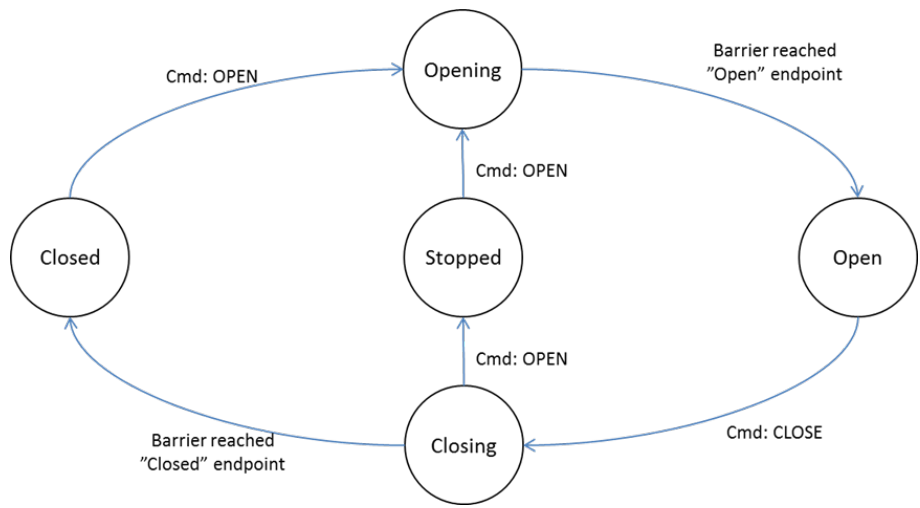

Figure 2.5: Barrier Set, state transitions
- A receiving node **MUST** comply with the allowed state changes and triggering commands specified in Figure 2.5. Any state/command pair not specified in Figure 2.5 **MUST NOT** cause any action.